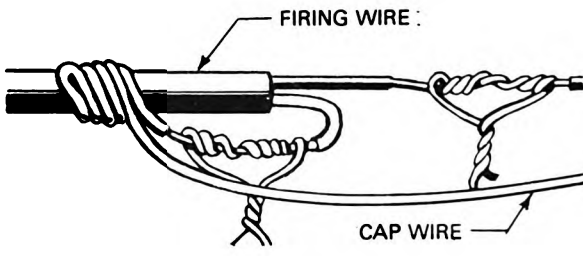

Figure 4.
(2) An alternate method of preventing a short circuit is when the splices are separated, not staggered (figure 4).